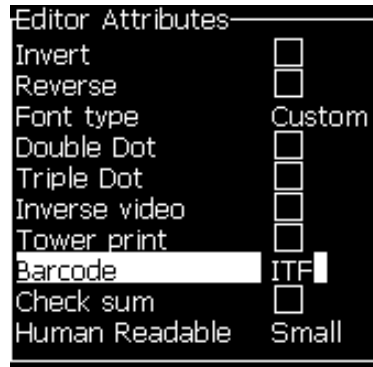

Figure 5-53: Select the Type of Barcode
- 2 Press the *F3* key or *ALT + E* and select *In-line Attributes* to open the *Editor Attributes* screen (Figure 5-53 on page 5-58).